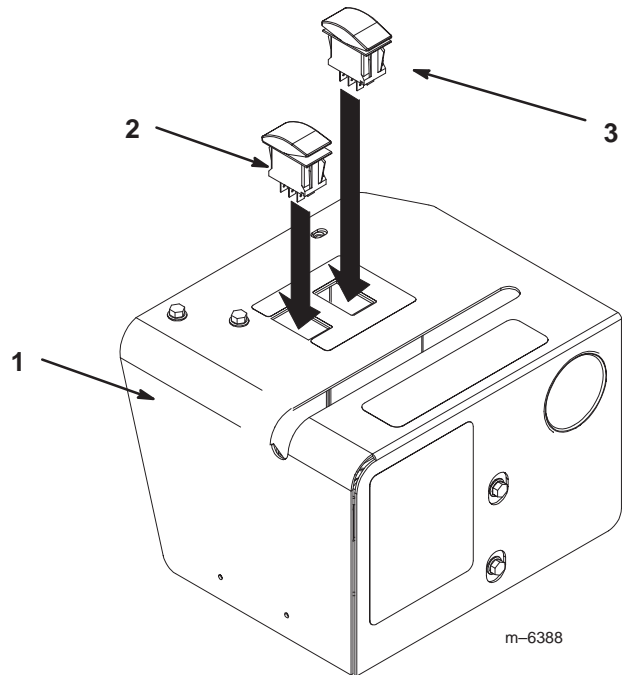

Figure 19
5. Install the two switches into the rectangular holes on the top of the cover (Fig. 19). Install the momentary switch (switch that does not stay in either position when you are not pressing it) into the hole marked with the continuous variable and plus (+) and minus (-) signs.